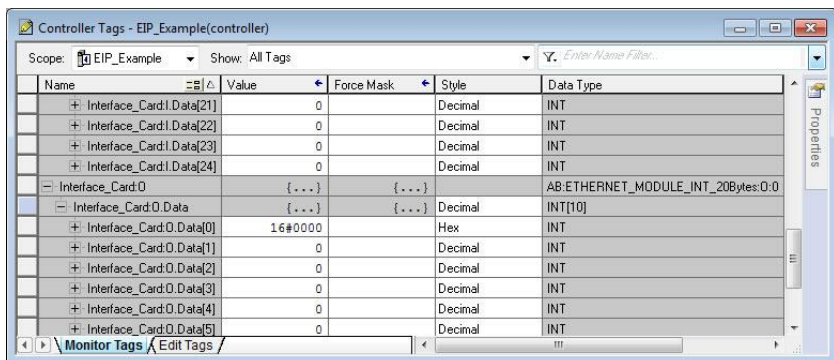

Figure 26: Controller Tags for I/O Access
- 8) By double-clicking “Controller Tags” in the project tree, it is possible to view the newly-added tags. Refer to Figure 26. The Interface\_Card:C configuration tag is unused, the Interface\_Card:I tag allows viewing of the input data, and the Interface\_Card:O tag allows modification of the output data. These tags will be synchronized with the inverter at whatever rate was established for the module’s RPI.
- 9) By double-clicking "Controller Tags" in the project tree, it is possible to view the newly-added tags. Refer to Figure 26. The Interface\_Card:C configuration tag is unused, the Interface\_Card:I tag allows viewing of the input data, and the Interface\_Card:O tag allows modification of the output data. These tags will be synchronized with the inverter at whatever rate was established for the module's RPI.